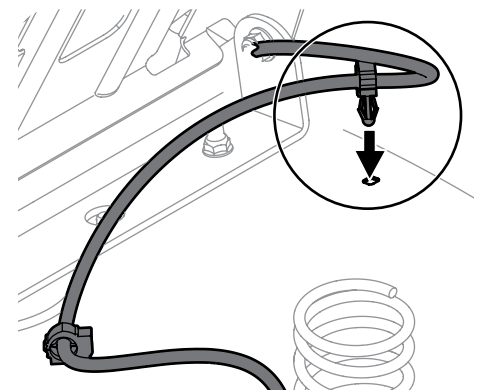

Figure 2-5
4. Using the harness clips (if equipped) attached to the harness, secure the excess wire to the fender by snapping the harness clips in place as shown in Figure 2-5.